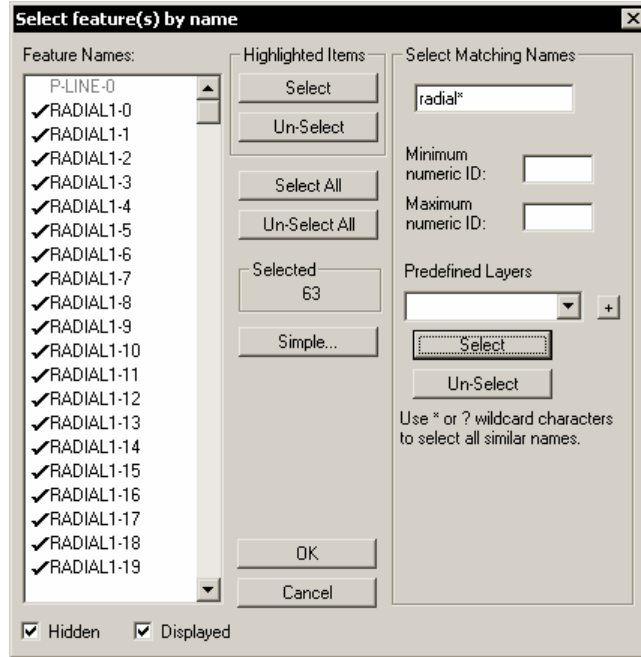

Figure 12.4: Select Features by Name Dialog
6. Press the *Un-select All* button. Click on the *Advanced* button and type **RADIAL*** in the matching names area as shown in Figure 12.4. Press the *Select* button in the *Matching Names* area. Press OK. The selected features are displayed in magenta.